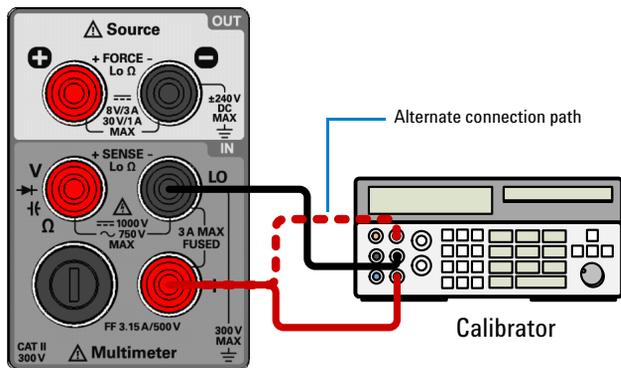

Figure 5-3 Test setup for DC current and AC current gain verification
- 1** Connect the calibrator to the front panel **I** (red) and **LO** (black) input terminals (see Figure 5-3 on page 142).